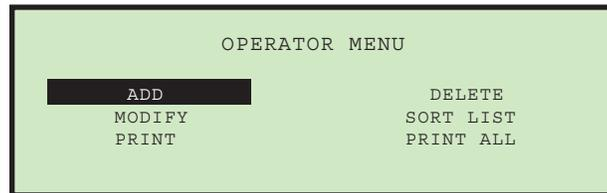
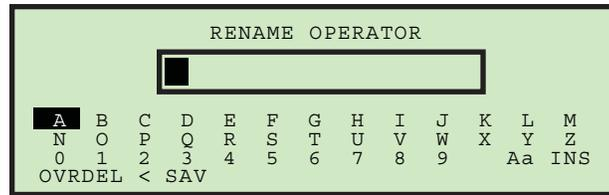

Figure 3-52: Operator Menu screen
Figure 3-53: Rename Operator screen
1. On the **OPERATOR MENU** screen (Figure 3-52), select **ADD**. The **RENAME OPERATOR** screen will appear (Figure 3-53).
1. On the **OPERATOR MENU** screen (Figure 3-52), select **DELETE**. The **SELECT OPER TO DELETE** screen appears.
1. On the **OPERATOR MENU** screen (see Figure 3-52), select **MODIFY**. The **SELECT OPERATOR** screen will appear.
1. On the **OPERATOR MENU** screen (Figure 3-52), select **SORT LIST**.